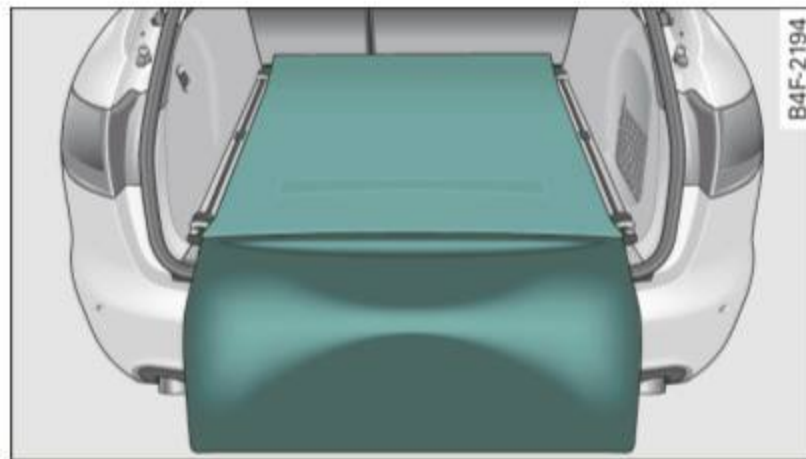

Fig. 88 Luggage compartment carpeting when loading: folded out over the bumper
- To load, pull the folded part of the luggage compartment carpeting over the bumper ⇒ fig. 88.